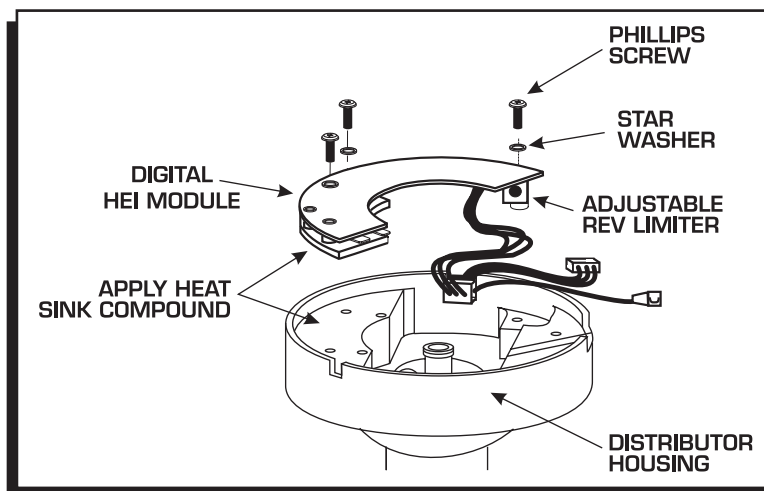

Figure 2 Installing the Module.
2. Apply a liberal coat of the Heat Sink Compound to the aluminum base of the Module. Route the wiring harness out of the housing, position the module in the distributor then locate the three screws and star washers to secure the module (Figure 2).